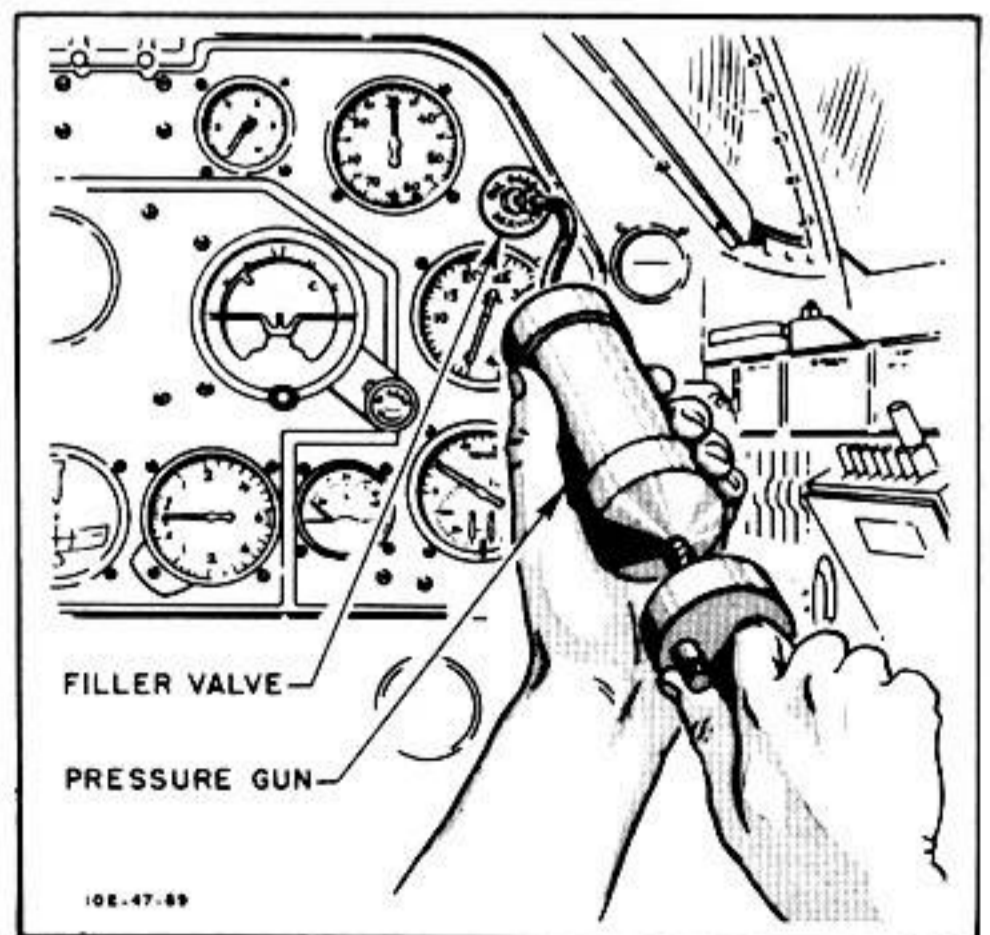

Figure 300—Filling the Oil Pressure Gage Line
2. Fill oil pressure gun with instrument oil, Specification No. AN-VV-C-366. On early airplanes, connect gun to filler cap on the instrument panel (figure 300) and on later